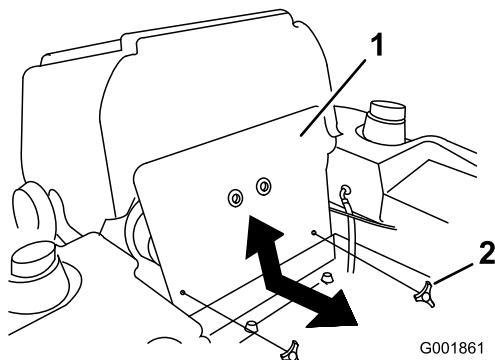

Figure 56
1. Tilt the seat forward and remove the front engine panel (Figure 56).